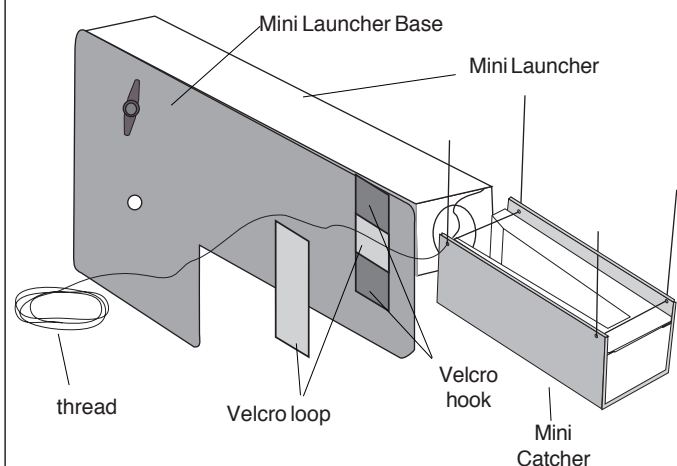

Figure 3. Velcro Assembly
To enable the user to measure the height to which the pendulum swings, a thread must be connected between the ball catcher and the launcher. The amount of extension of the string shows how far the pendulum swung. One end of the string slips through a Velcro assembly on the Mini Launcher base, and the other end threads through a hole in the ball catcher. (See Figure 3.)
- ① Separate the Velcro hook and loop strips.
- ② Cut two square pieces of Velcro hook and one square piece of Velcro loop.
- ③ Determine the approximate height at which the Velcro assembly will be applied. This is determined by the approximate height of which the ball catcher hangs.
- ④ Remove the protective covering from the back of each Velcro square.
- ⑤ Arrange the two square pieces of Velcro hook and one square piece of Velcro loop onto the vertical plate of the Mini Launcher base as shown (Figure 3).
- ⑥ Cut one piece of Velcro loop 5 – 6 cm long. Do not remove the protective backing.
- ⑦ Tie a thread to one of the front holes in the ball catcher as shown (Figure 3).
- ⑧ The other end of this thread will pass between the square piece of Velcro loop (attached to the Mini Launcher base) and the long piece of Velcro loop which should be applied to the three Velcro squares attached to the Mini Launcher base.